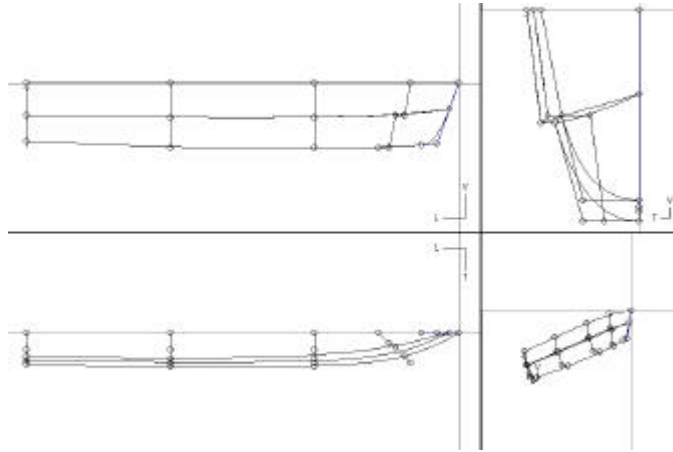

Figure 3-3: Outboard hull surface
7. In *Side*, *Top* and *Front* view, form the hull to achieve the shape you want for the outboard half of the hull. Try to set the top edge of the hull around midship at  $T = 1.6$ . We will be trimming off the top edge of the hull, so do not bother to shape it in profile. You should also position the forward-most vertices of both chines at the same location. (See Figure 3-3.)